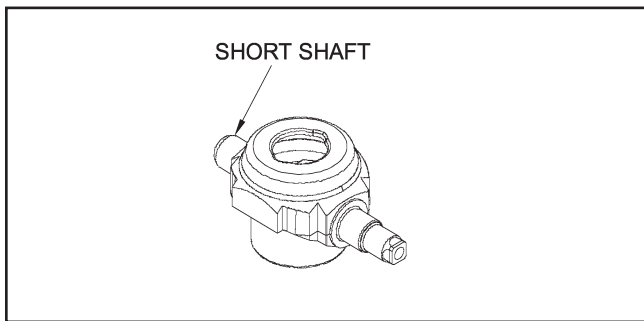

Figure 20
17. *Care must be taken to prevent the scaring or scratching of the center section sealing face during this step.* Insert the short shaft side of the swashplate/pump block assembly (Figure 20) into the housing while simultaneously compressing the pistons in the block. NOTE: To assist in the installation of these components, insert the assembly until 3/4 of the pump block is covered by the center section. Then slightly angle the trunnion shaft end away while pressing the short swashplate shaft into its pocket.